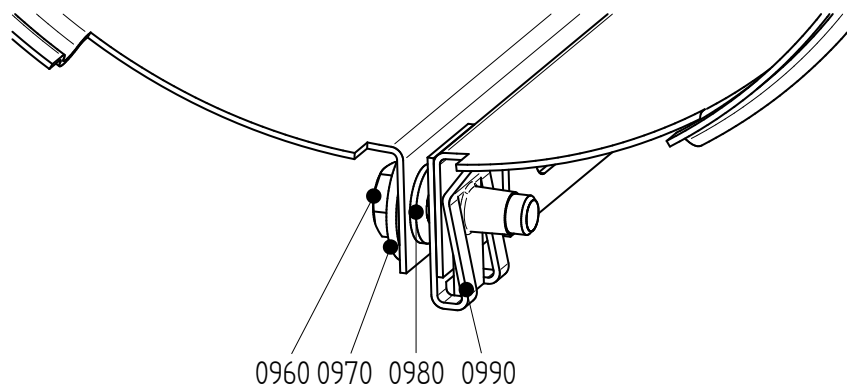

Figure 15: Fitting jacket.
- 1 Loosen bolts (0960). See figure 15.
3 Close the jacket and fit bolt (0960). See figure 15.
5 Close the jacket and fit a bolt (0230) and fit bolt (0960). See figure 15.